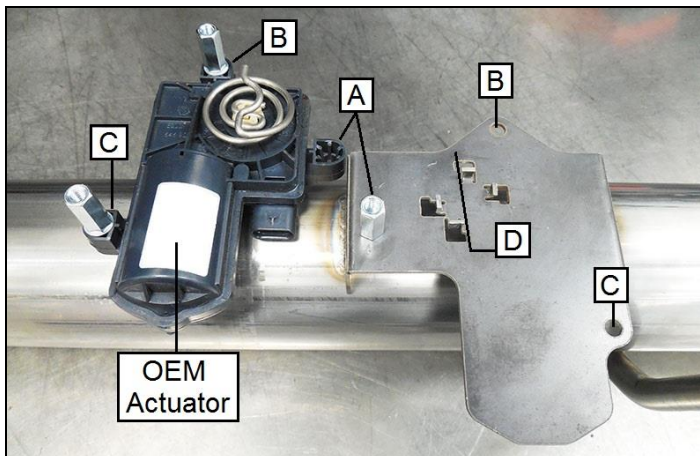

Figure 2
1. Place the Right tailpipe on the work bench with the AEV mounting bracket facing up (**Figure 2**).
2. Install the (x2) coupling nuts and washers onto the AEV actuator positions **B** and **C** with the 10-32 x 3/4" flange bolts (**Figure 2**). Be sure to install the washer between the actuator and the coupling nut. Do not overtighten the bolts, as the actuator case is plastic.
3. Install the third coupling nut onto the actuator mounting plate position **A** using a 10-32 x 1/4" flange bolt. Install the bolt from the back side of the bracket (**Figure 2**).
4. Install the coupler spring on to the actuator making sure the drive spring is centered and firmly locked into the drive on the actuator (**Figure 2**).
6. Place the actuator on to the mounting plate and align positions **A**, **B**, and **C** making sure the drive spring wire is located between the raised tabs on the mounting plate as shown in **Figure 2** reference line **D**. Install the 10-32 x 3/4 flange bolt into position **A** on the actuator and into the washer and coupler nut previously installed on to the mounting plate. Be sure the washer is installed.